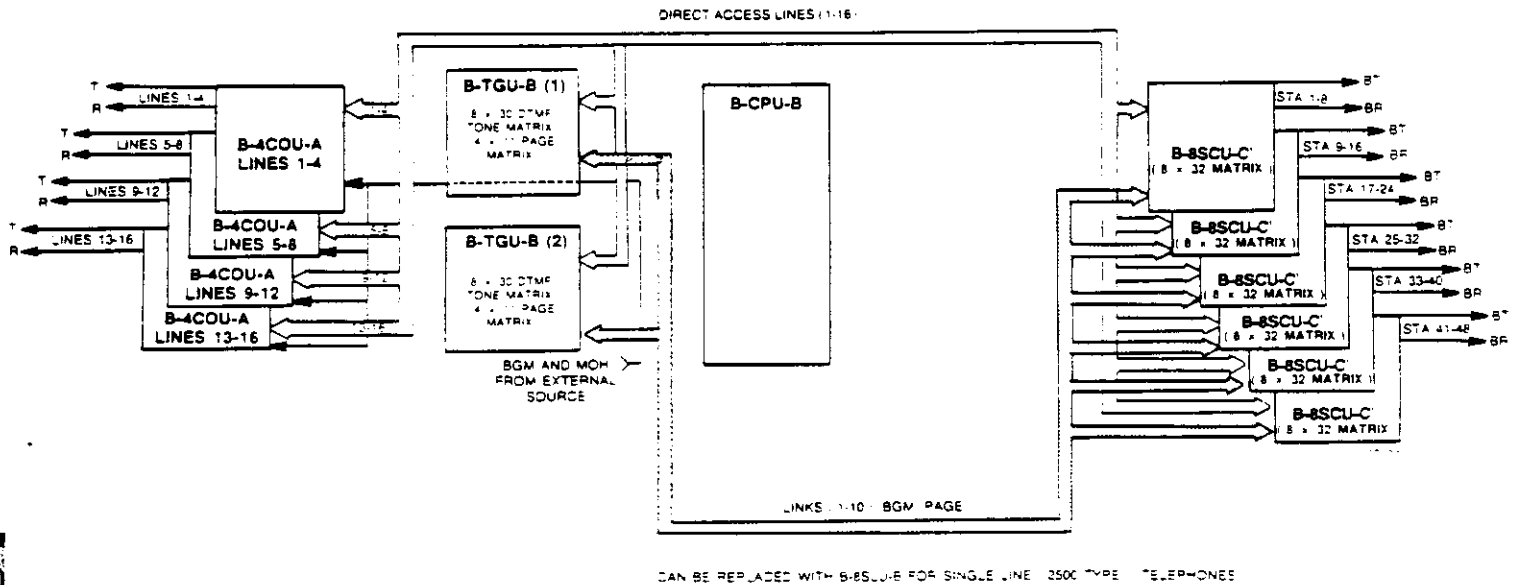

Figure 8-2 ANALOG (AUDIO) CONNECTIONS. EK-824/1232/1648
2.15 The analog network (Figure 8-2) connects the audio (speech) circuits of the telephones to each other, to the tone generators and DTMF circuits in the B-TGU-B PCB(s), and to the outside lines. There are 28 talkpaths (audio paths) in the EK-1648 system. Sixteen talkpaths are for the Direct Access Lines (lines 1-16). The remaining 12 are for the 10 Intercom links, Page and Background Music. The EK-1232 system has 24 talkpaths (12 lines, 10 links, Page and BGM), and the EK-824 system has 20 talkpaths (8 lines, 10 links, Page and BGM). Note that one of the 10 Intercom links is always reserved for CO line ringing. The audio connections in the KSU backplane are formed into two busses: the Direct Access Line Bus and the Link Bus.